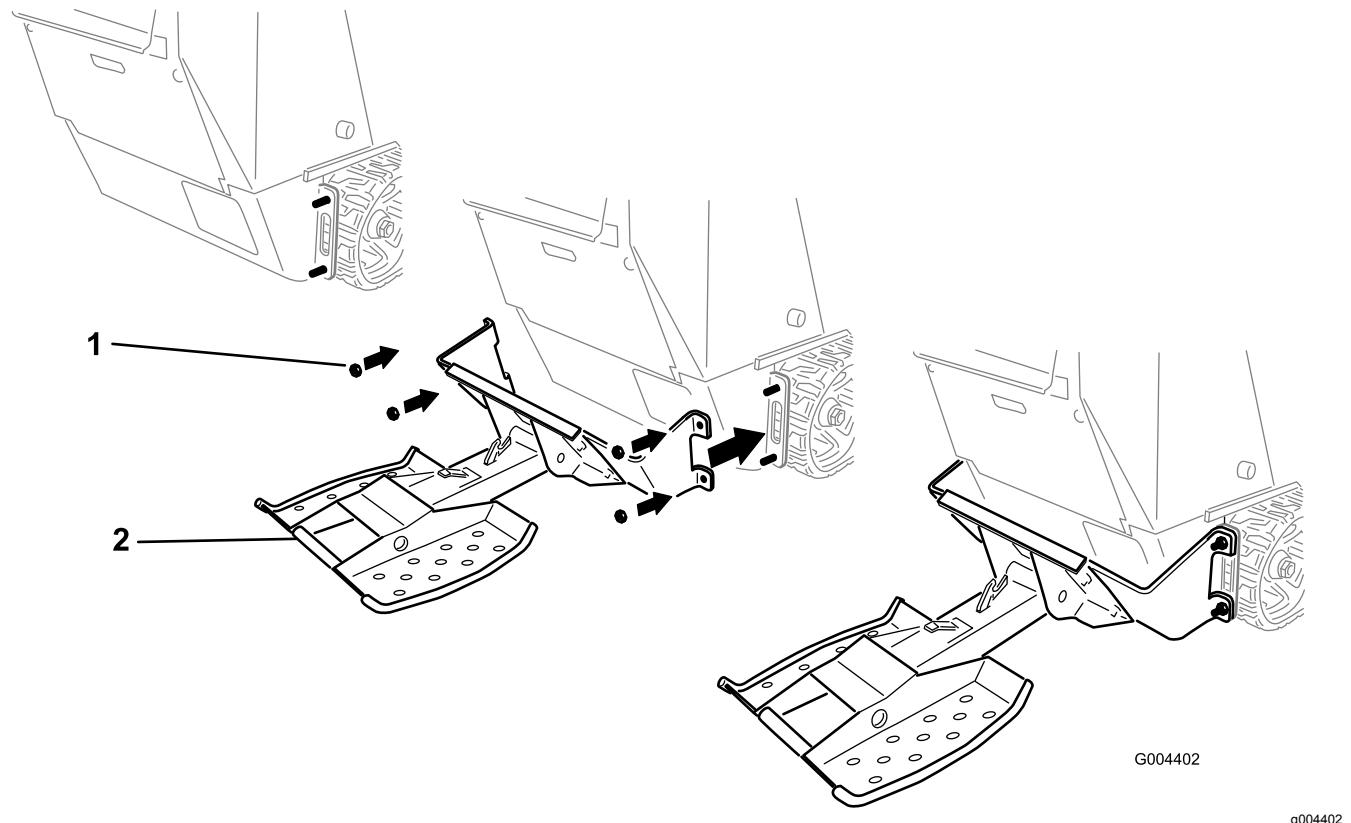

Figure 5
5. Install the mounting brackets onto the 4 bolts you inserted into the rear panel previously and secure them with 4 nuts (1/2 inch) as shown in Figure 5.